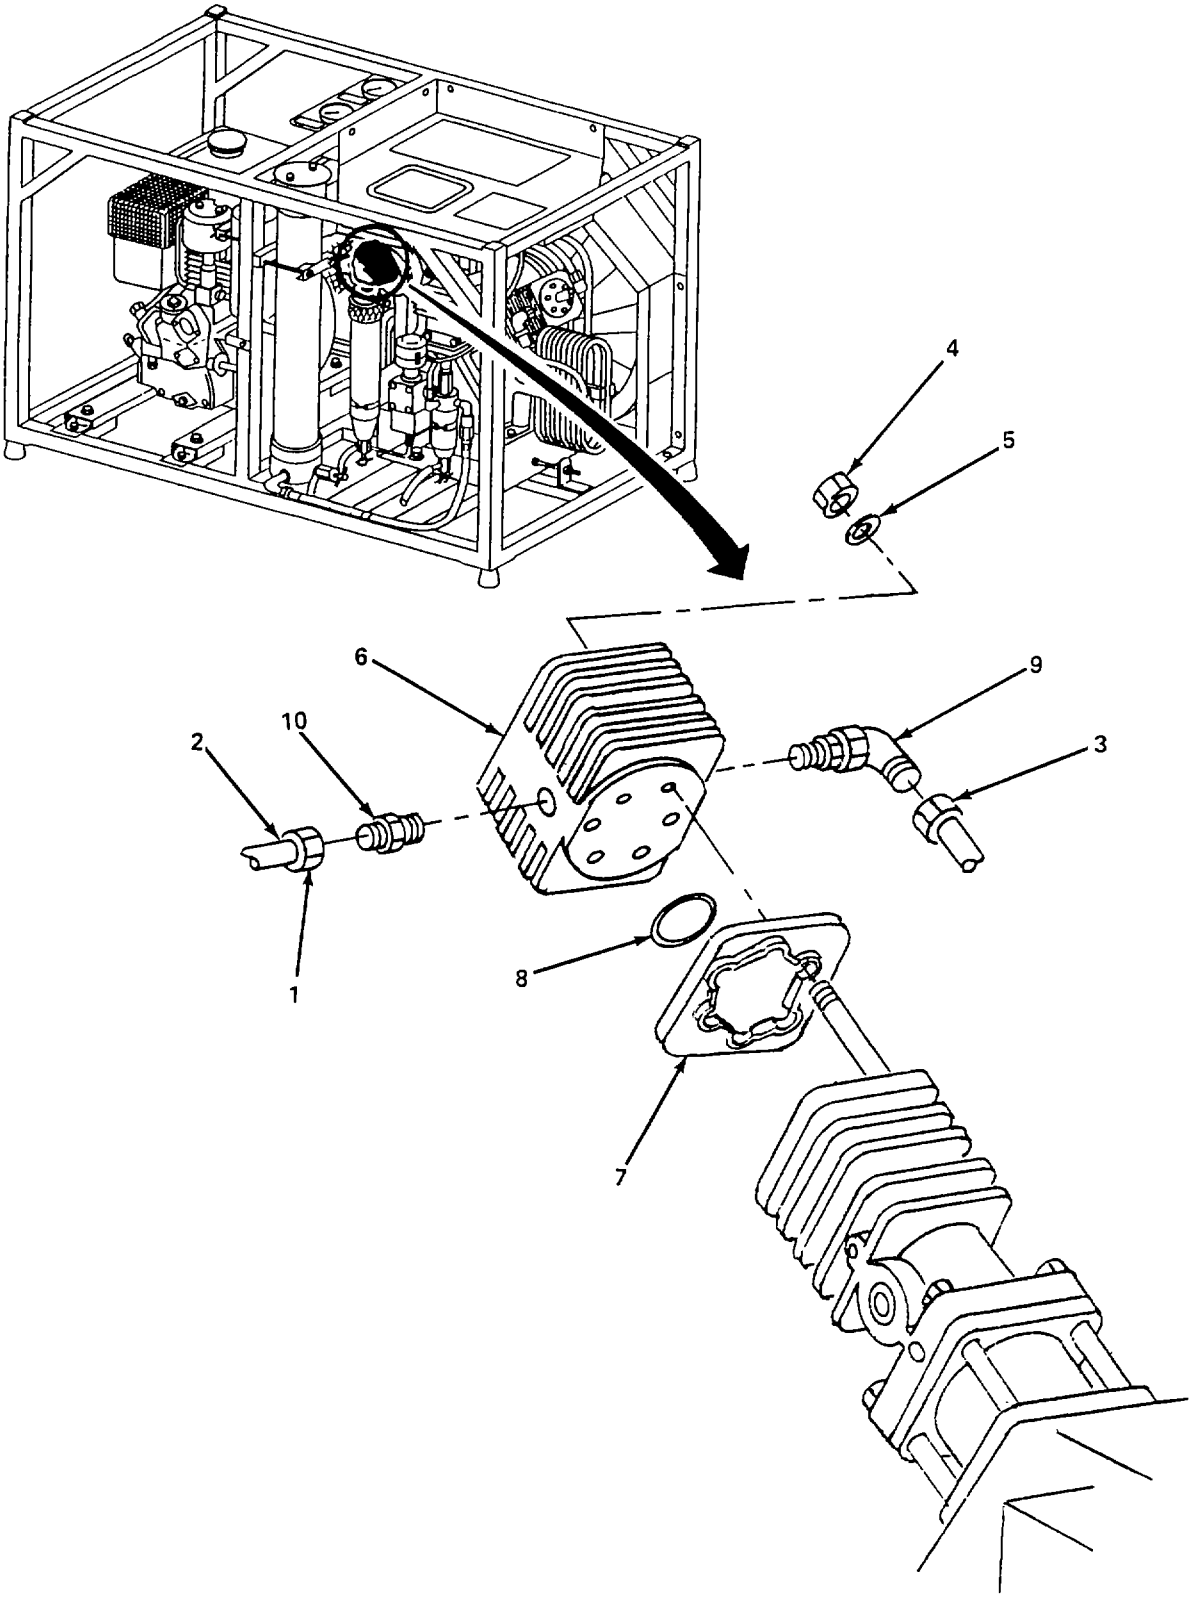

Figure 5-34. Third Stage Valve Head Assembly, Replace.
- a. Replace. (figure 5-34)
- (1) Loosen two connector nuts (1) securing line (2).
- (2) Loosen connector nuts (3).
- (3) Remove six nuts (4) and washers (5) and remove valve assembly (6), cooling ring (7), and preformed packing (8). Discard preformed packing (8).
- (4) Remove fittings (9) and (10).